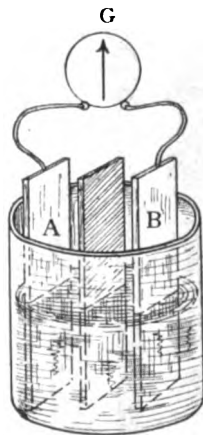
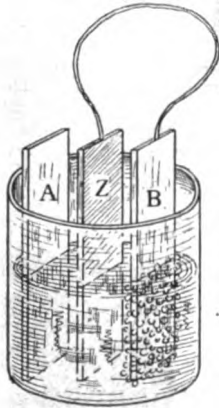
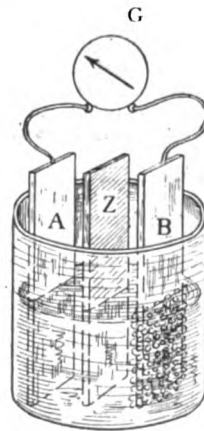

FIG. 13.
FIG. 14.
FIG. 15.
primary cell. To demonstrate it by experiment; immerse two clean copper plates (A and B) and a clean zinc plate (Z) in a solution of dilute sulphuric acid, Fig. 13. The plates must not be in metallic contact. Connect a sensitive galvanometer (G) to the copper plates A and B: the needle will not be deflected, showing that the copper plates are neither positive nor negative to one another. Connect the zinc plate Z to one of the copper plates, say B, by a piece of copper wire, for a few minutes (Fig. 14): bubbles of hydrogen gas will appear and accumulate on the surface of B. Disconnect the wire from the zinc plate and connect it to the galvanometer in circuit, Fig. 15; the needle will be deflected, showing that the balance between the state of the copper plates has been disturbed, and that a current of electricity is flowing from one plate to the other through the solution and back by way of the connecting wires and galvanometer.
made in a similar manner. The drill was now changed for No. 23 $\times \frac{1}{2}$ in. radius and the drill spindle packed up slightly at the pulley end for the execution of the centre pattern, which is very like that described for the snuff box (Fig. 13), except that every fourth cut is missed—a bit Irish! The 96 circle was used and the divisions required